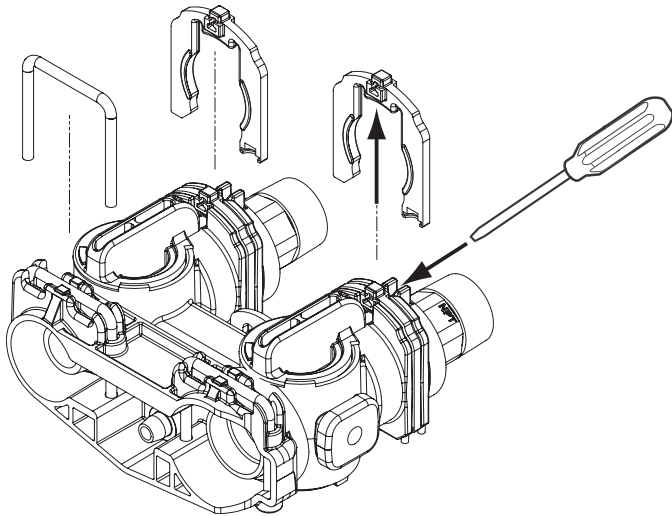

Figure 10 Connector Assembly
1. Locate parts and a roll of Teflon tape. The plumbing adapters should be removed (Figure 10 Connector Assembly).
3. Remove the clip by inserting a flat blade under the top center of the clip and lifting (prying up) (Figure 10 Connector Assembly).